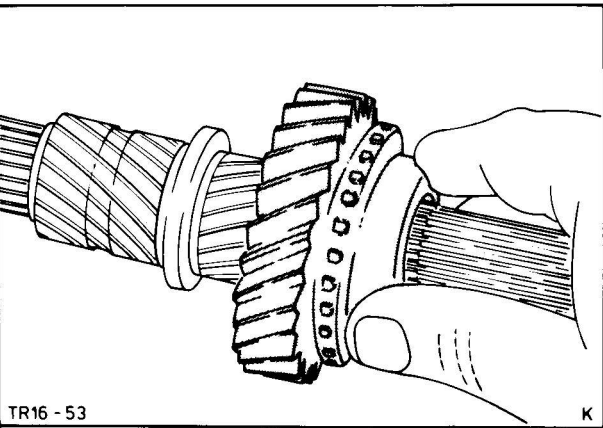

Fig. 82. Fit 2nd gear
22. Fit 2nd gear with synchroniser ring, Fig. 82, and 1st/2nd gear synchroniser hub and secure with circlip.